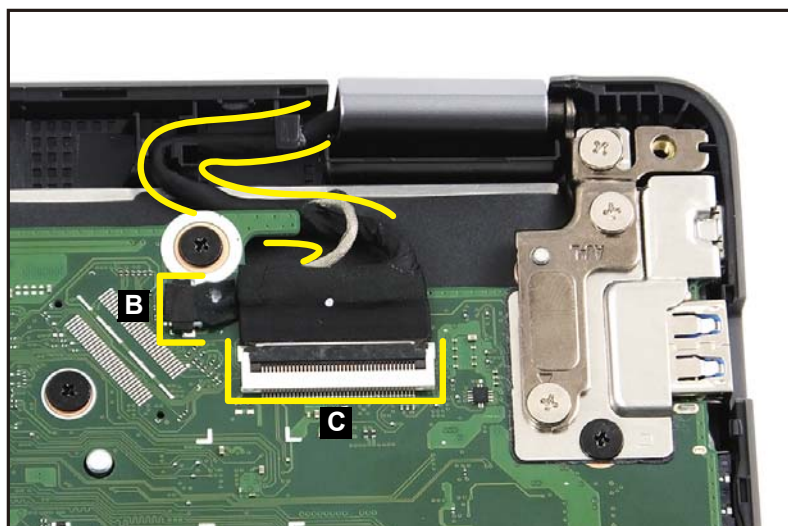

Figure 1-17. LCD Module Removal
2. Disconnect the G-sensor cable from the mainboard connector (B) (Figure 1-17).
3. Disconnect the eDP cable from the mainboard connector (C). Then unroute the eDP cable from the cable guides (Figure 1-17).